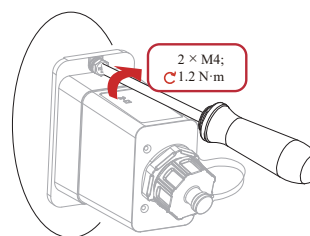

Figure 13c: Secure the Wi-Fi/Ethernet dongle
C. Secure the Wi-Fi/Ethernet dongle. (Figure 13c)